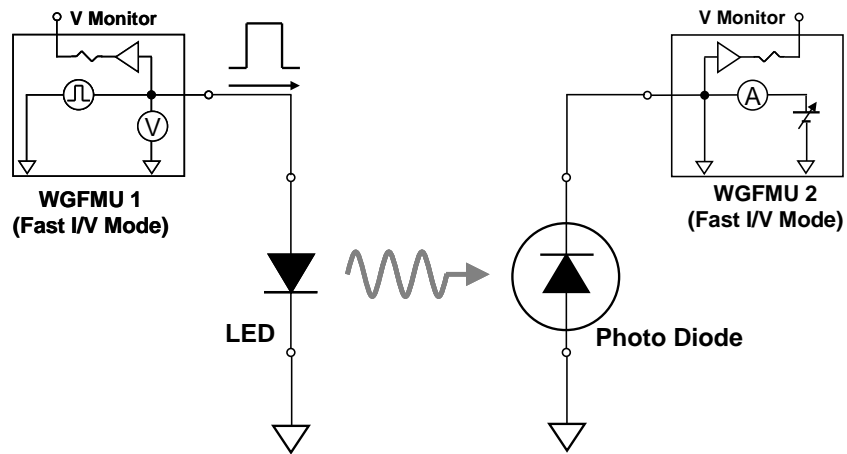

Fig. 2-20 Application for the LED measurement
The setup used in this chapter is also applicable for the pulse response measurement of the PD (Photo Diode) or LED (Light Emitting Diode). The WGFMU 1 to force the pulse voltage is used to drive the light source (LED) and the WGFMU 2 is used to measure the current of photo detector (PD) with a constant bias voltage. Fig. 2-20 shows the measurement circuit diagram of the pulse response of the PD / LED by using the WGFMU.